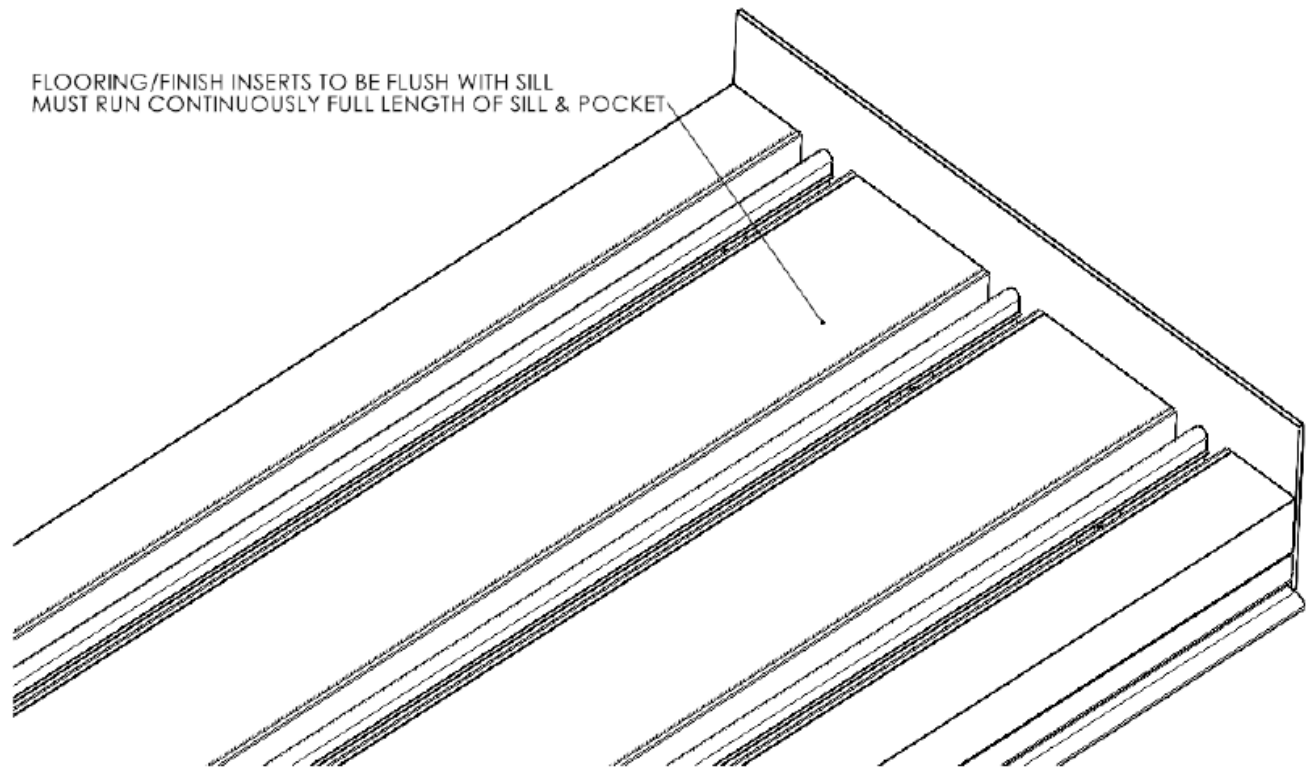

Figure 8
- No water management (sill with no weeps or drain fitting) (See **Figure 8**).
NOTE: Sill types with limited water rating, no water rating, or no water management should only be used in well protected areas where a roof overhang will prevent driving rain and the exterior finish grade is stepped down and/or sloped away from the sill to help prevent water penetration. Installation of such sill types in exposed applications is strictly prohibited by Awake as these sill type do not prevent water or moisture intrusion which can lead to significant property damage. See Figure 8. Proceed to Step 10.